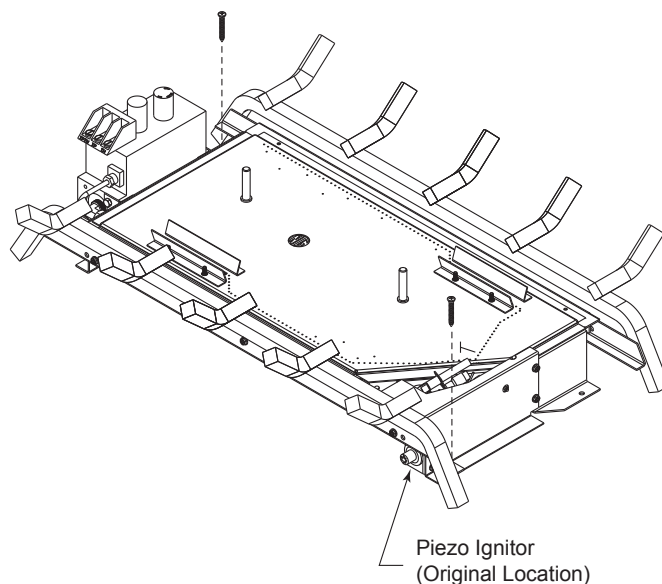

Figure 11 - Secure Burner
2. Anchor holes are located on the right and left sides of the unit. After centering the grate correctly, mark the hole locations on the fireplace/firebox floor. Drill two (2) 5/32" diameter holes approximately 1¼" deep.
3. Anchor the unit to the fireplace/firebox floor using the screws provided. *Figure 11*